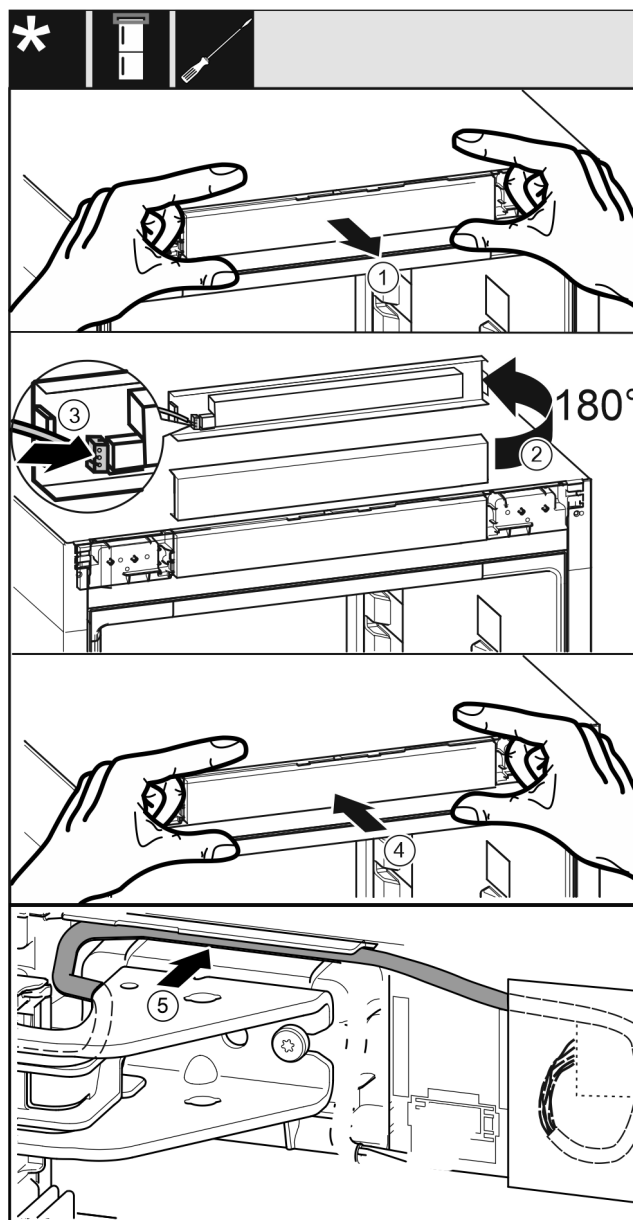

Fig. 40
- Remove the control panel trim Fig. 40 (1) carefully.
- ▶ Turn the control panel trim *Fig. 40 (2)* up by 180°.
- ▶ Engage the plug *Fig. 40 (3)* on the control panel trim.
- ▶ Re-engage the control panel trim *Fig. 40 (4)* on the appliance.
- ▶ Lay the cable *Fig. 40 (5)* carefully in the guide above the top swap bearing block.